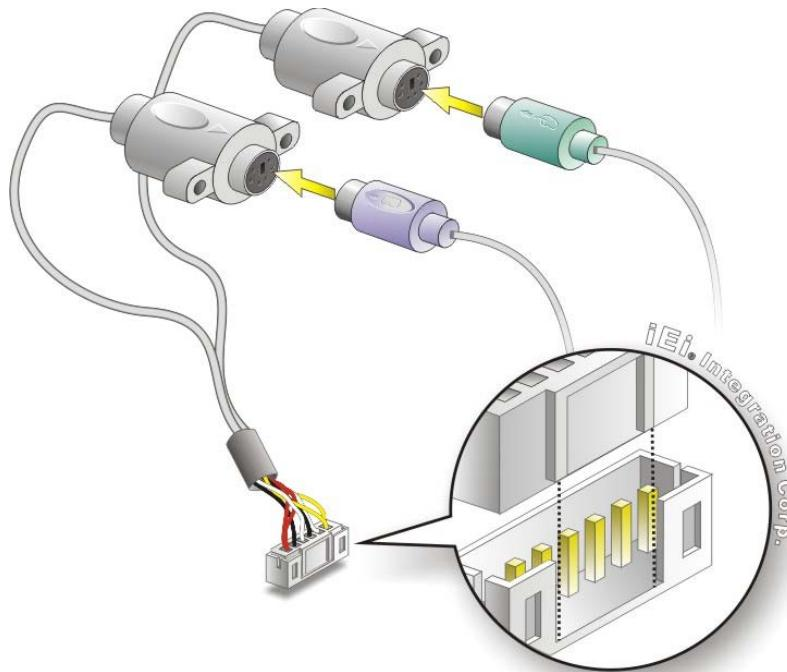

Figure 4-9: Keyboard/mouse Y-cable Connection
**Step 2: Align the connectors.** Correctly align pin 1 on the cable connector with pin 1 on the WAFER-PV-D4251/D5251/N4551 keyboard/mouse connector. See Figure 4-9.
**Step 3: Insert the cable connectors** Once the cable connector is properly aligned with the keyboard/mouse connector on the WAFER-PV-D4251/D5251/N4551, connect the cable connector to the on-board connectors. See Figure 4-9.